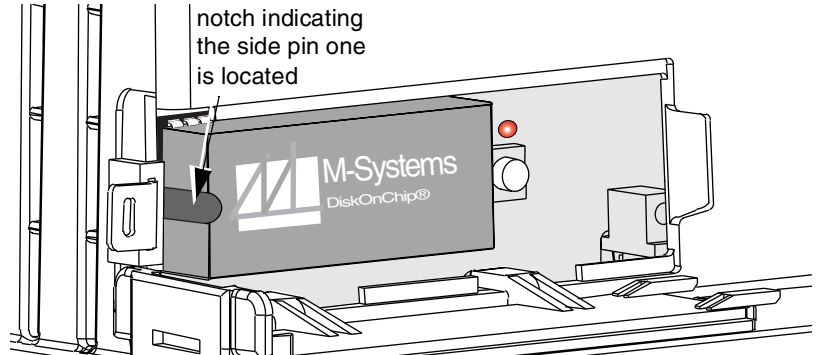

Figure 2: Location of pin one on the existing memory chip
5. Notice the location of pin one on the memory chip. A notch on the memory chip indicates the location of pin one (see Figure 2).